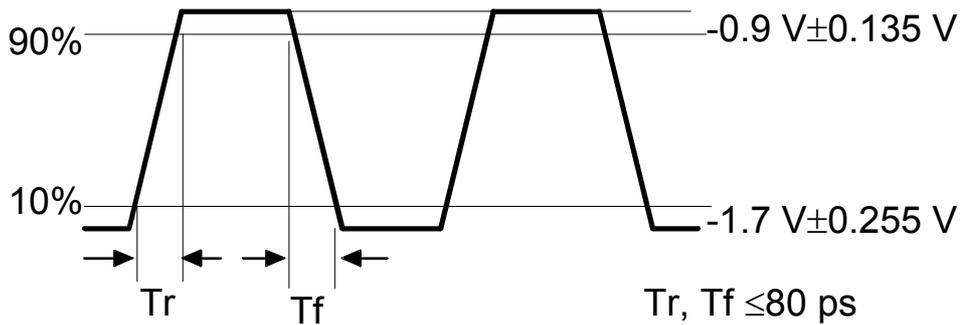

Fig. 8-4 Specifications of clock output waveform (ECL)
5. To display waveform, connect all connectors according to Fig. 8-3. Confirm that the level of both waveform is in the range according to Fig. 8-4 and rise/fall time is 80 ps or less.